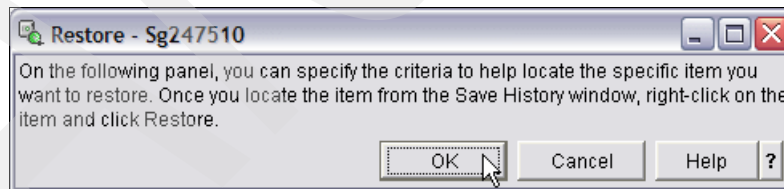

Figure 6-95 Restore - Help information
2. A help panel is presented first, informing you of the options available for a restore task, as shown in Figure 6-95.